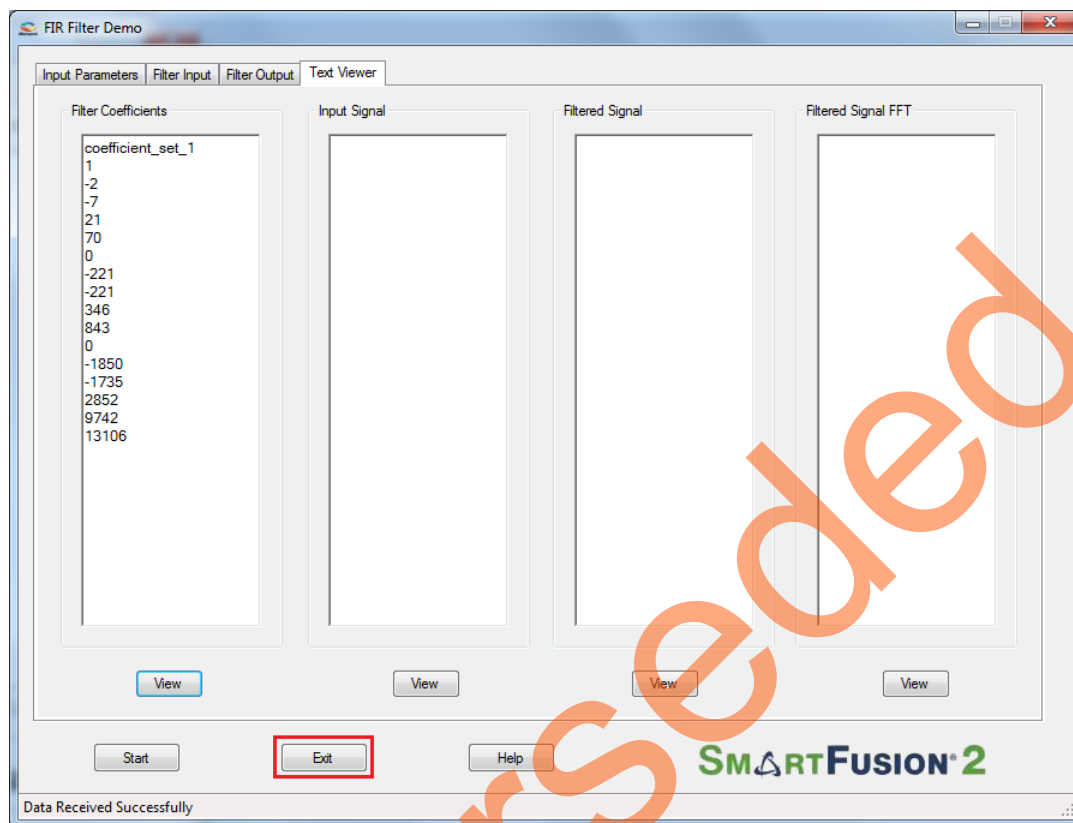

Figure 22 • Exit Demo
13. Click **Exit** to stop the demo. Refer to Figure 22.